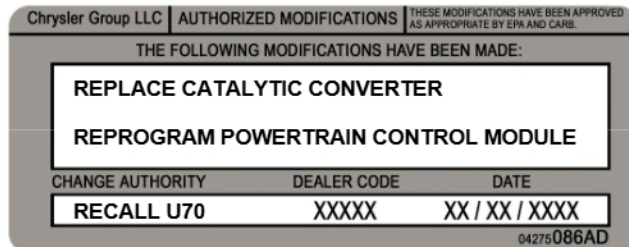

Figure 14 – Authorized Modifications Label
1. Type or print (with a ballpoint pen) the necessary information shown in (Figure 14) onto the authorized modifications Label.